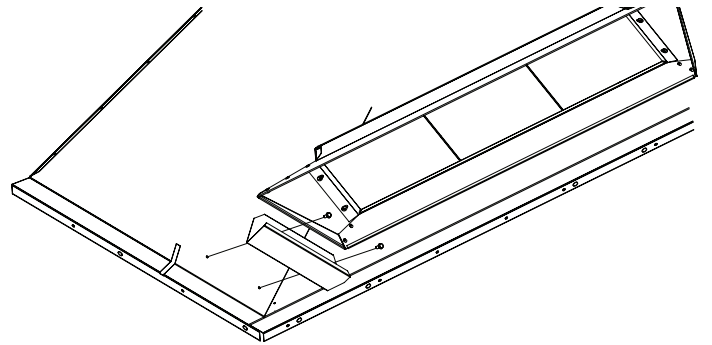

Figure 25 - Installing PureFire Hood
3. Using screws provided, secure the bracket to the inner dome of the fireplace as shown in Figure 25. The left and right bracket are different. The edge that is straight will be closer to the fireplace opening.
4. Lift hood up into the fireplace and place it on the retaining brackets (Figure 25). The rear of the hood will touching the rear of the fireplace.